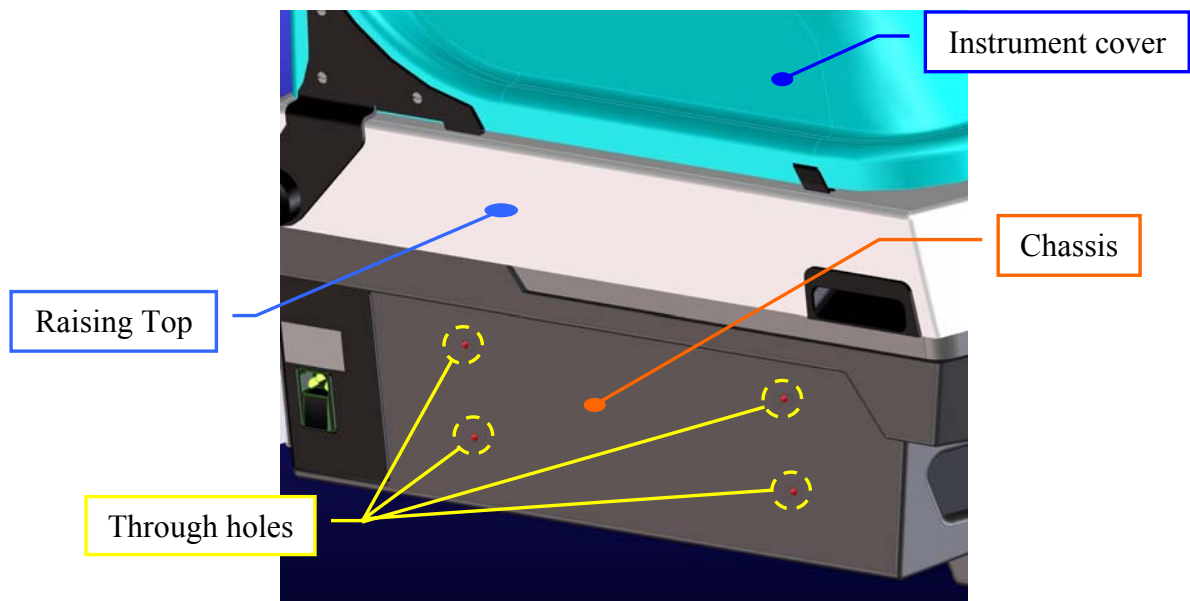

Fig. 2 – Four through holes located on the chassis
4. Draw up the container to the left-hand side of the instrument and put on completely the four threaded pins in the four through holes located on the chassis (**Fig. 2**).